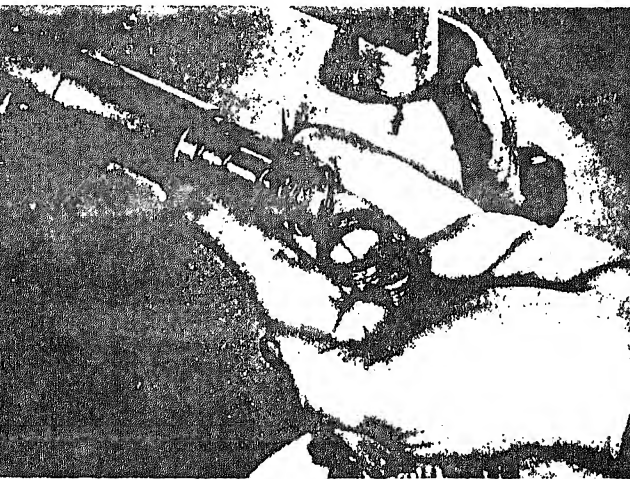

Fig. 507-3 Removing spring pack assembly
5. Remove idle-spring plunger guide, idle spring or springs, idle spring plunger, and spring rest washer. Fig. 507-3.